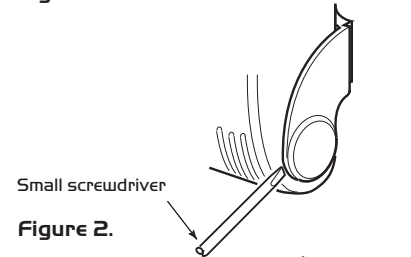

Figure 2.
- c) Carefully separate the sensor from the backplate using a small screwdriver (see Fig 2) Note: the sensor will remain connected by its internal cable.